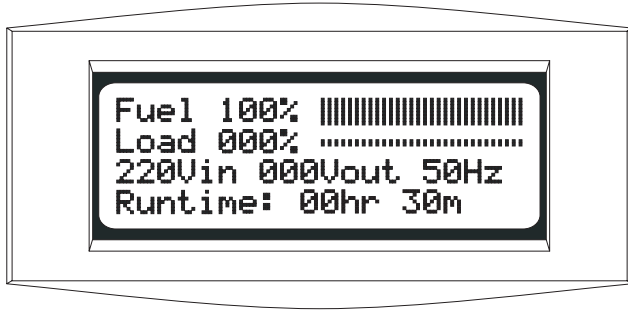

Fig 4-11 Startup Screen
- ☐ 6. Using the PowerView display, read and record the reported input voltage from the startup screen. (“220Vin” in figure 4-11 indicates that the input voltage is 220V.)
- ☐ 8. Switch the maintenance bypass switch to the “on” position. The Power Array will go into the manual bypass mode, and voltage should now be present at the output terminal connections. The bypass LED on the PowerView display will glow and one or more messages may appear on the PowerView display. Ignore these messages by pressing the ESC navigation key on the PowerView display until the startup screen reappears. See figure 4-11. Read and record the output voltage that is indicated on the PowerView. (“000Vout” in figure 4-11 indicates that the output voltage is 000V.)